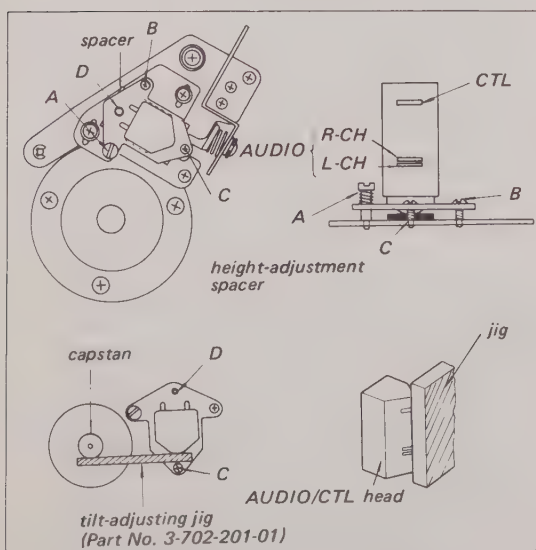

Fig. 5-6. Audio/Control head replacement and adjustment
2. Remove screws A and B shown in Fig. 5-6. Do not lose the spring under screw A. Do not loosen the screws in the long slots.
4. Adjust the front surface of the head to be paralleled with the capstan using screws C and D. Adjustment jig (Part No. 3-702-201-01) is used to set parallelism between the capstan and the head as shown in the lower details of Fig. 5-6.